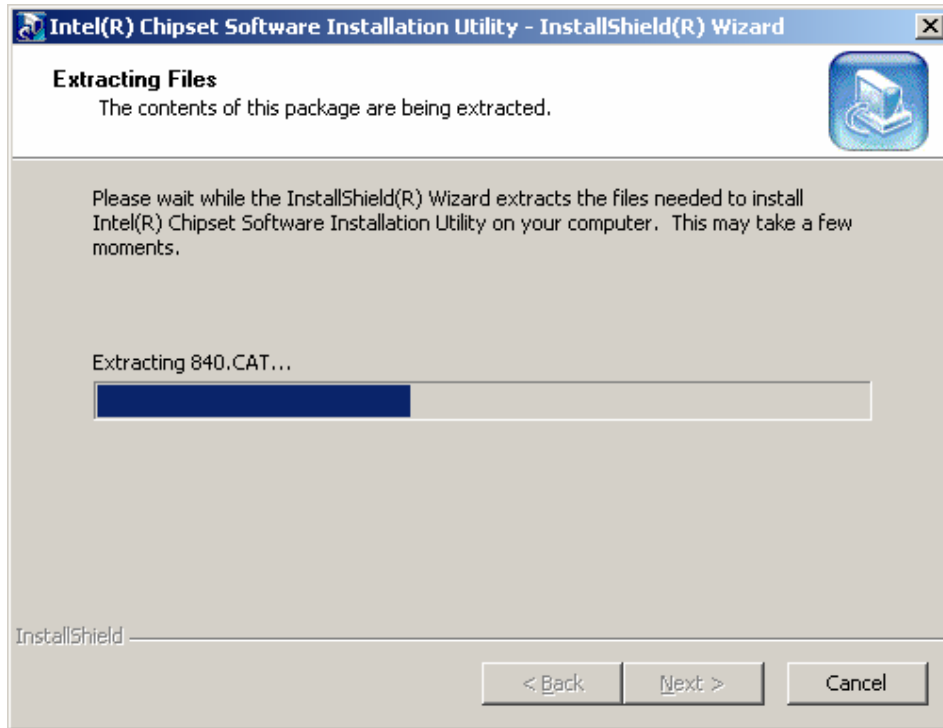

Figure 6-8: Chipset Software Installation Utility Extracting Files
Step 1: Insert the Utility CD that came with the CPU card into the system CD drive. Open the X:\1-INF\ directory (where X:\ is the system CD drive) and double-click the infinst_enu.exe installation file to begin extracting files (Figure 6-8).